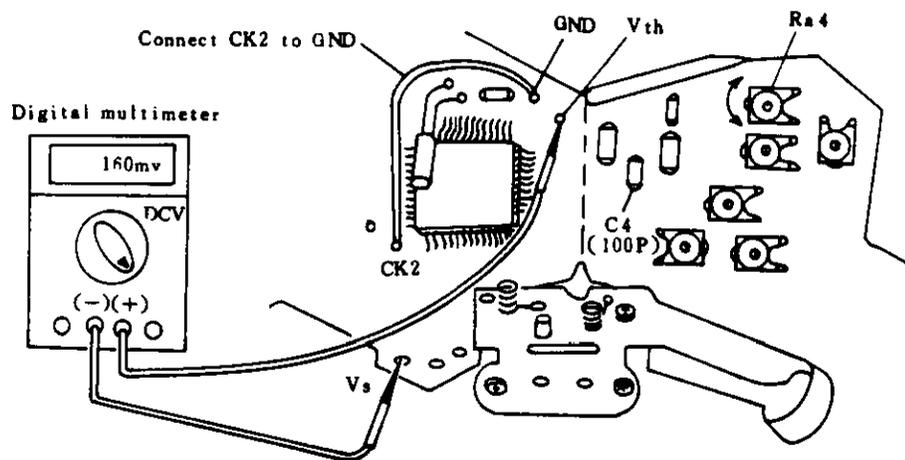

Fig 53
- ① Connect CK2 to GND as shown in (Fig 53).
- ② Set the position of ISO100.
- ③ Connect (+) of digital multimeter to Vth, (-) of digital multimeter to Vs, and then read the voltage. See (Fig 53).